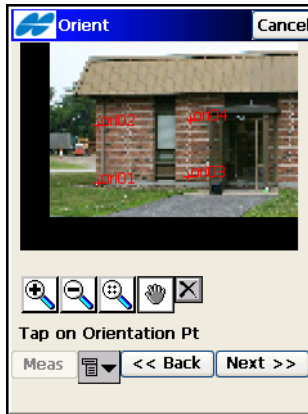

Figure 8-62. Calculate Image Orientation
- When four or more orientation points have been established, tap the **Next** button on the ***Orient*** screen (Figure 8-62 on page 8-55) to display the orientation results.